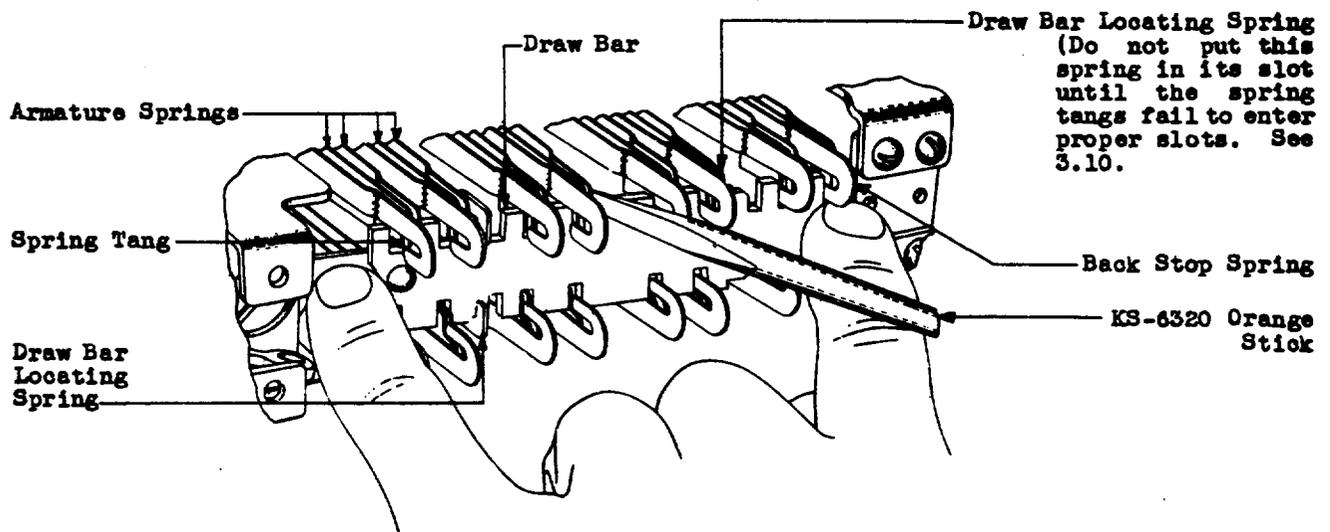

Fig. 6 - Method of Replacing Drawbar
3.10 Replacing Draw Bar of 232 Type Relays - Insert the draw bar in its normal position, so that the tangs of the back stop springs pass through the slots of the draw bar until it comes to rest against the outer edges of the locating springs. Apply an inward pressure to the draw bar at the draw bar pin and at the far rivet head, using the forefinger and fourth finger of the left hand as shown in Fig. 6. With the orange stick in the right hand, move the locating spring which is nearer to the magnet, into the proper slot of the draw bar. Make sure that the draw bar link is not behind the draw bar metallic strip. Starting with the spring assembly nearest the magnet, move the
armature springs to the right or left until their tangs slip into the proper slots of the draw bar, still maintaining the pressure as indicated. To facilitate this, it will probably be necessary to rock the draw bar about a vertical axis, pushing the magnet end of it in toward the frame. If it is found impossible to rock the draw bar sufficiently, move it longitudinally away from the magnet until the tangs of the armature springs fall into the slots at the outward end of the draw bar, thus permitting further movement. Proceed away from the magnet until the tangs of the armature springs fail to slip into the proper slots of the draw bar (See Fig. 6). Then move the remaining locating spring away from the magnet until it slips into its proper slot. Proceed with the armature springs, working away from the magnet until all springs are in position. Move the locating springs into their final position on the shoulders of the draw bar. Replace the draw bar link and the back stop bar as outlined in 3.07 and 3.05, respectively.